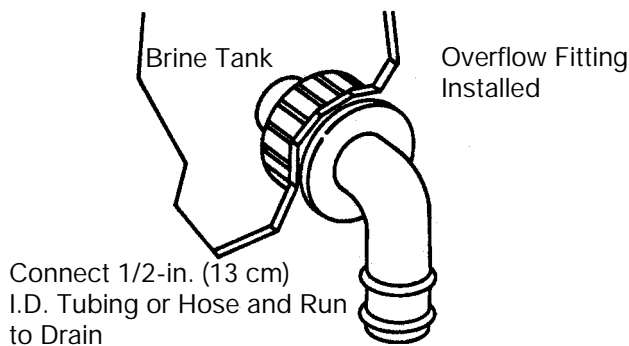

Figure 6 - Overflow Line Connection
2. Insert the overflow fitting (not supplied) into the tank and tighten with the plastic thumb nut and gasket as illustrated in Figure 6.